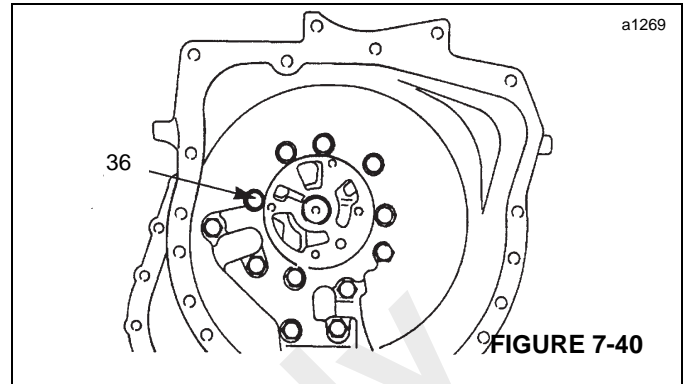

FIGURE 7-40
36. Unscrew bolts (36, Figure 7-40) and remove flywheel housing.